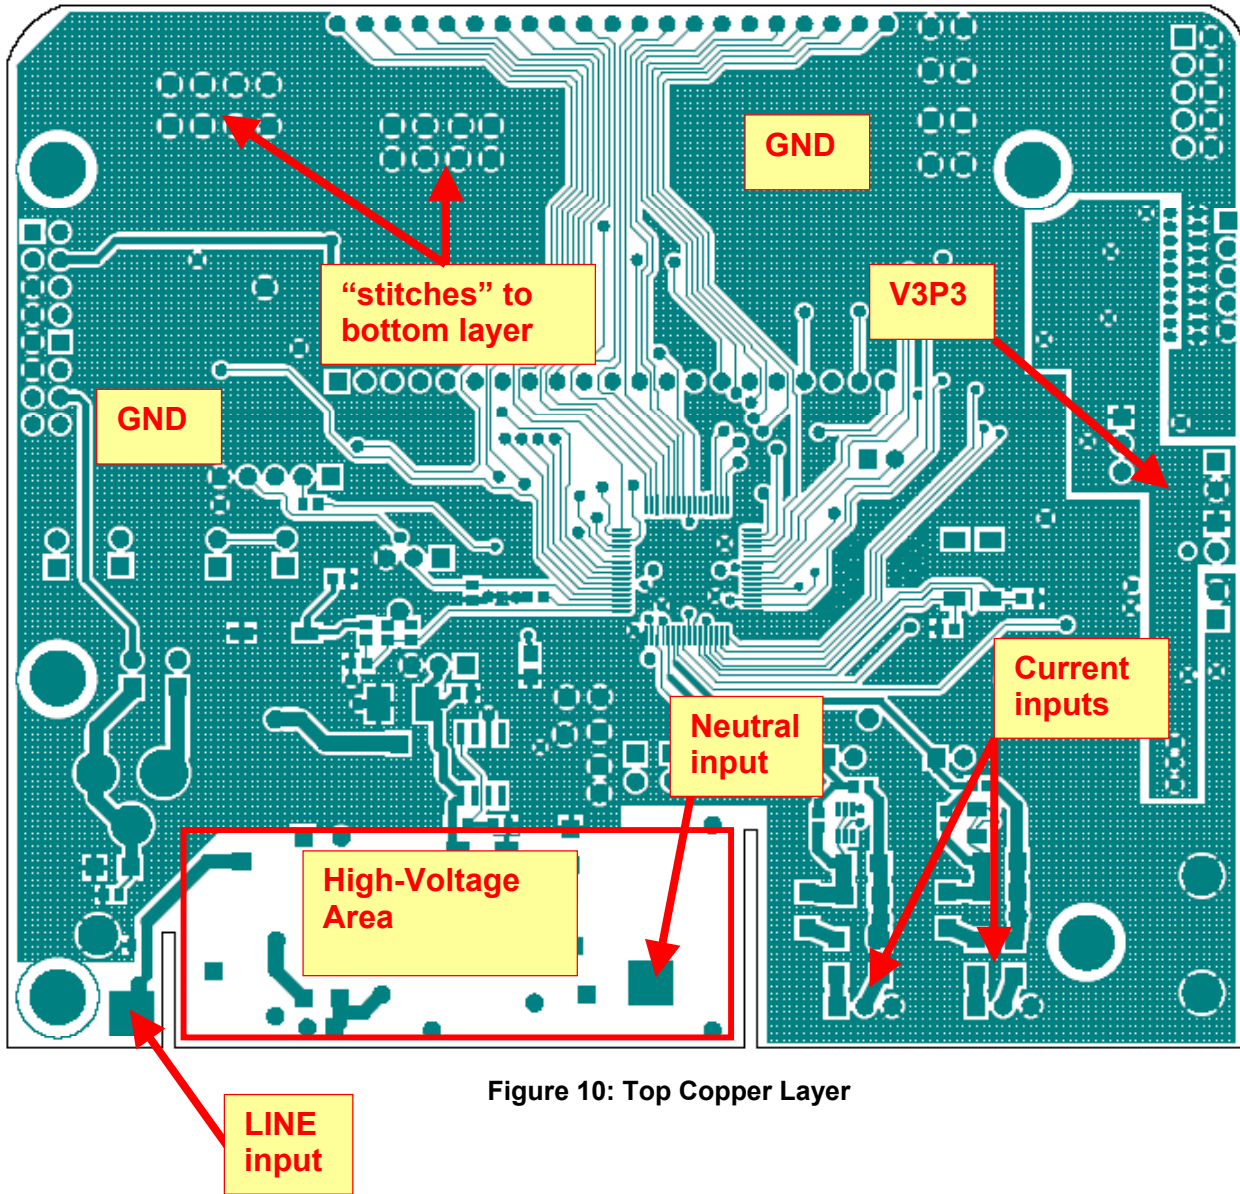
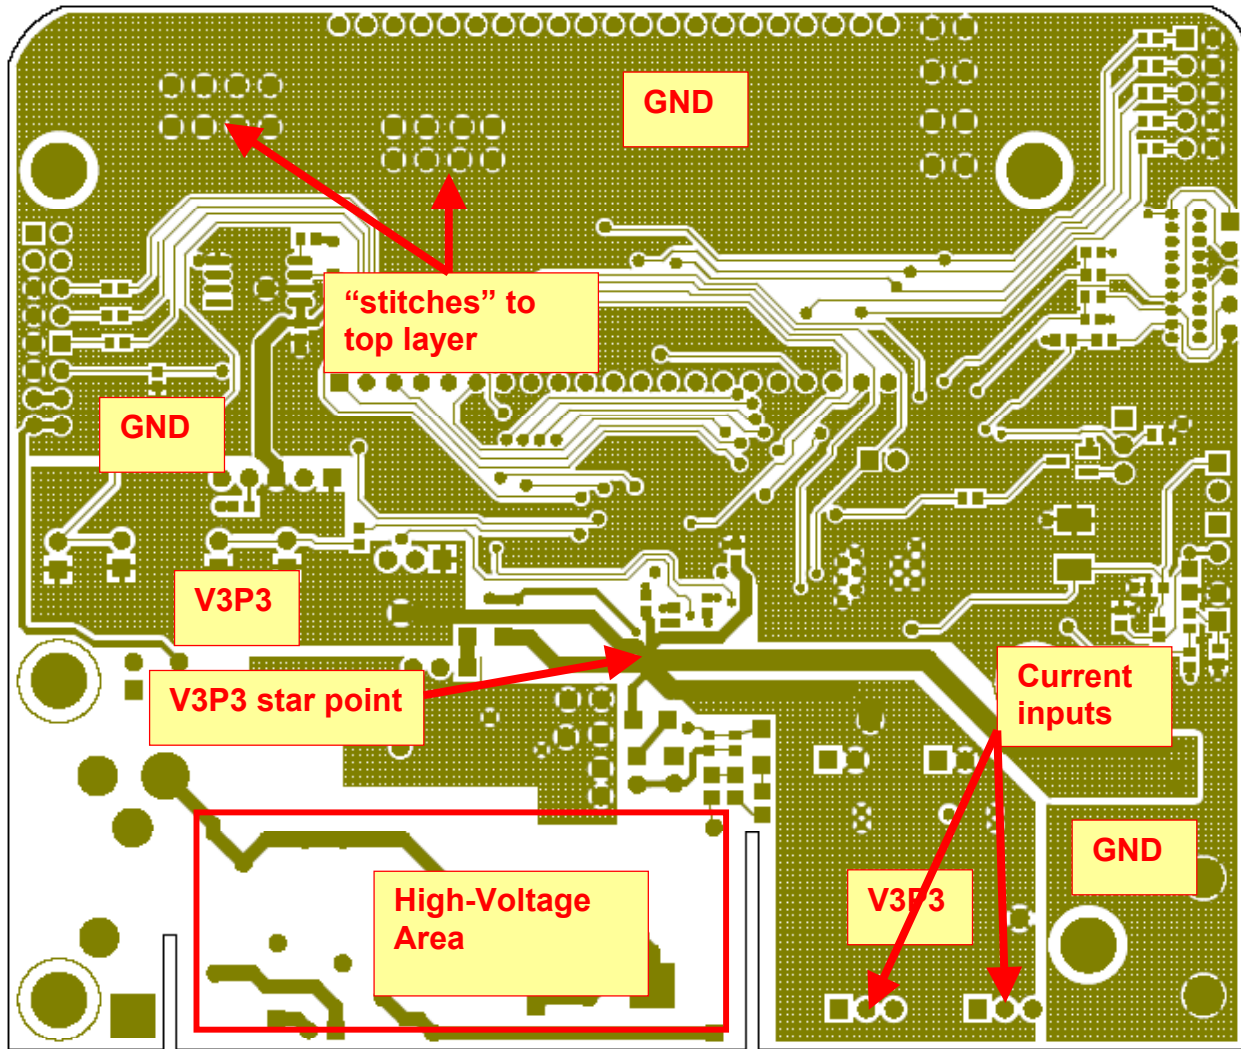

Figure 10: Top Copper Layer
Figure 11: Bottom Copper Layer
- For a good example of a two-layer board, examine the 6511 2-Layer Demo Board (see Figure 10 and Figure 11).